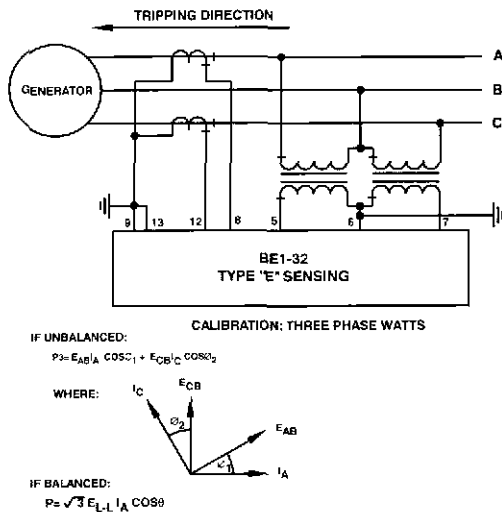

Figure 11 - Three Phase, Type E Sensing
**Type E Sensing:** Three-Phase (Figure 11). The type E sensing configuration monitors three line-to-line voltages and two of the phase currents of a three-phase, three-wire circuit and calculates the power flowing in the tripping direction. The power equation assumes that conditions are balanced. Relays with this sensing type are calibrated in three-phase watts. Note: Type E configurations are phase rotation sensitive.